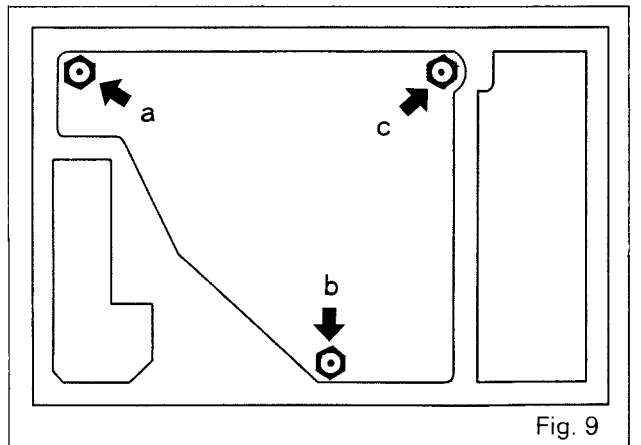
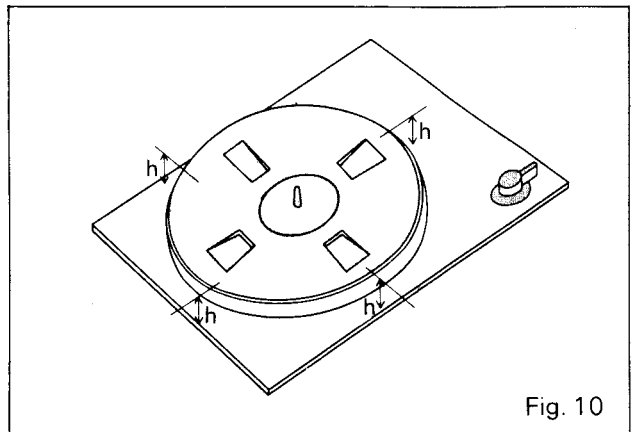

Fig. 9
Fig. 10
- (1) Place the set with the bottom base removed on a stable table, set the turntable, the turntable sheet and a record, and adjust the height and level of the turntable with the nuts **a**, **b** and **c** in Fig. 9 to the dimensions shown in Fig. 10.